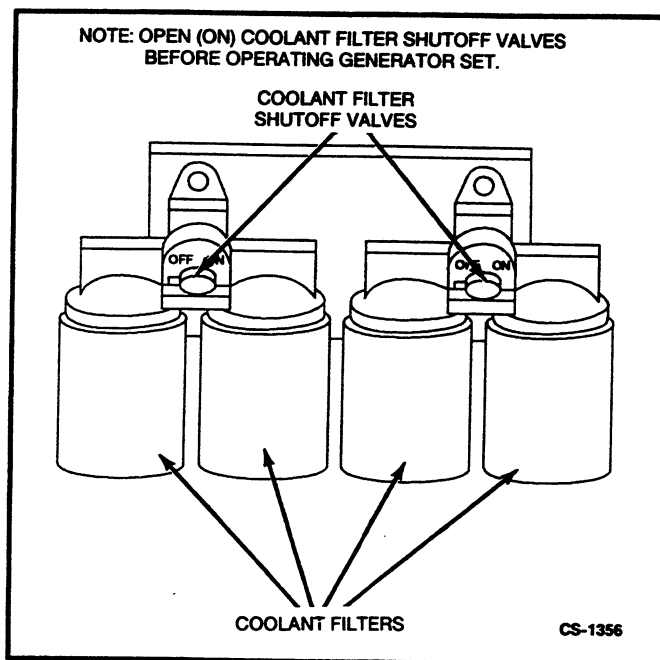

FIGURE 5-3. COOLANT FILTER
1. Close the shutoff valves (Figure 5-3).